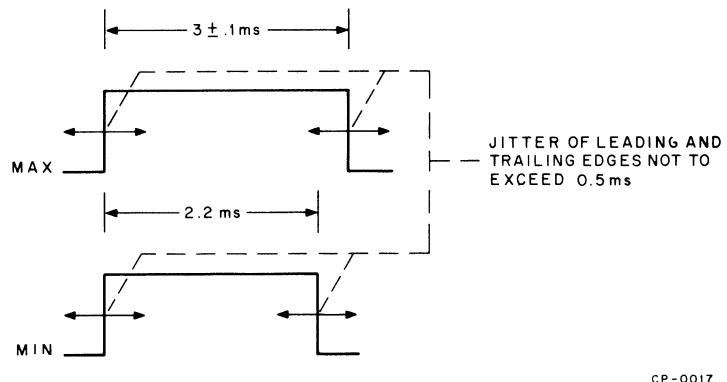

Figure 5-4 Minimum and Maximum Data Pulse Width
- h. Locate the shortest data pulse. With the longest pulse set for 3 ± 0.1 ms, the shortest pulse must be at least 2.2 ms as shown in Figure 5-4.